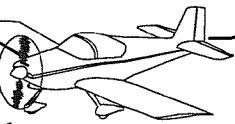

**FIGURE 3:** RIVETING THE REINFORCEMENT PLATES AND ROOT RIBS
Step 4: Rivet the two E-910 Hinge Reinforcement Plates, and the associated nutplate, to both E-1002 Front Spars using the rivets called out in Figure 3.
Step 6: Install the snap bushing, called out in Figure 3, into the hole indicated.